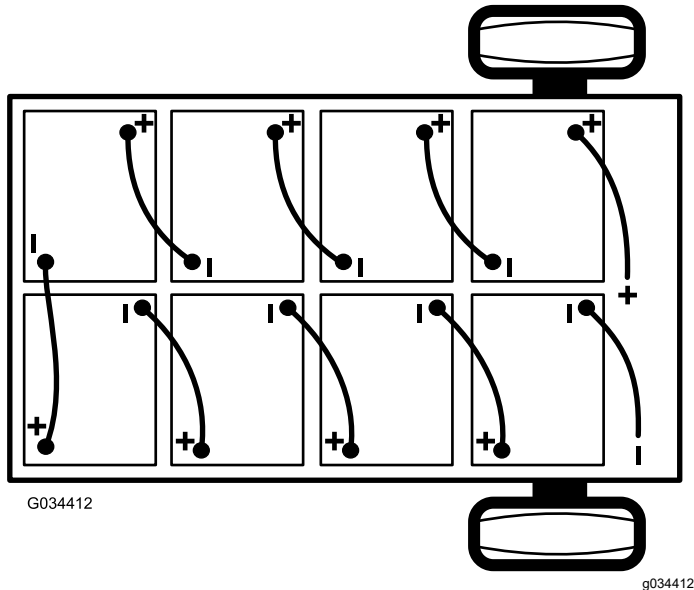

Figure 42
2. Disconnect the main negative-battery cable (black) that connects the bank of batteries to the ground point of the machine (Figure 42).
2. Connect the main positive-battery cable (red) between the bank of batteries and the machine (Figure 42).
3. Connect the main negative-battery cable (black) between the bank of batteries and the machine (Figure 42).
3. Disconnect the main positive-battery cable (red) that connects the bank of batteries to the main contactor of the machine (Figure 42).
**Note:** Pay attention to the battery polarity when installing the new batteries (Figure 42).
6. Connect the batteries together as shown in Figure 42 with the battery-interconnect cables that you removed in step 1.